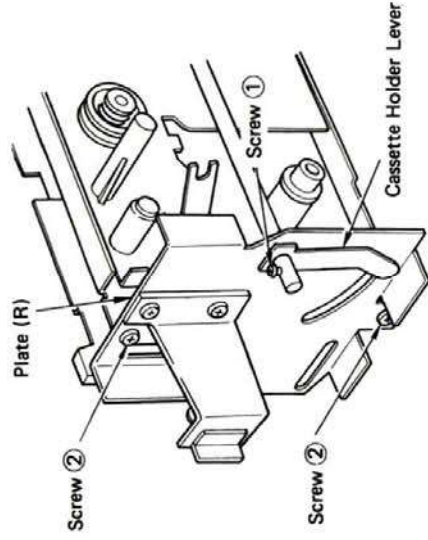

Fig. 9
- 2) To remove the cassette holder lever, remove screw ① shown in Fig. 9.
- 3) To remove the plate (R) for maintenance of the mechanism base, remove 2 screws ② shown in Fig. 9.